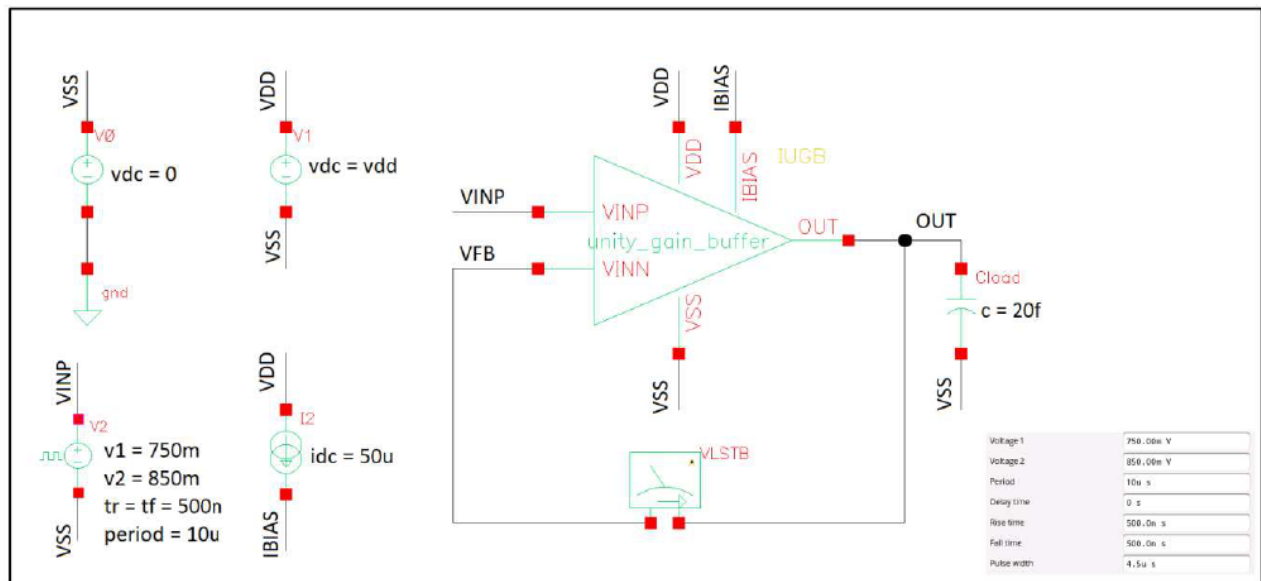

Figure 20. The unity gain buffer testbench for TRAN analysis
- Simulate the transient response with a pulse signal of 100mVpp at 100KHz, with a 0.8V offset as shown in **Figure 20**, and analyze the output response.